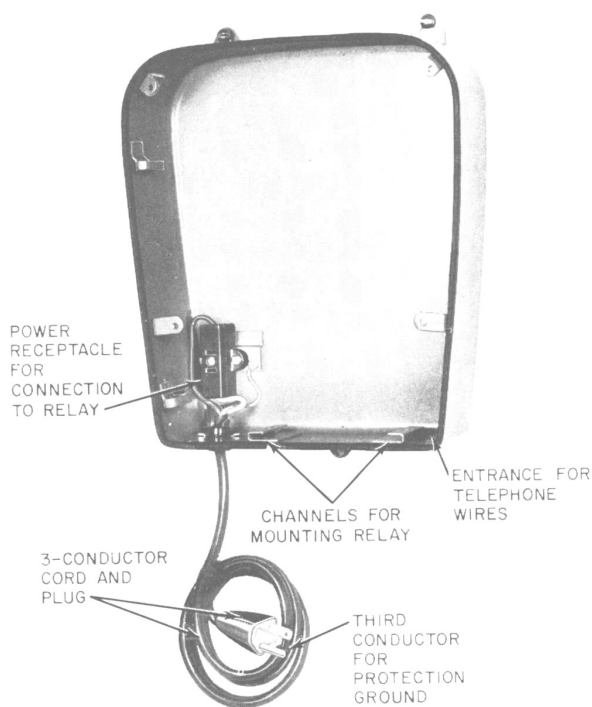

Fig. 5—Backbox, KS-16301, List 8
- An entrance hole for the telephone wires is located in the bottom of each backbox (Fig. 5).